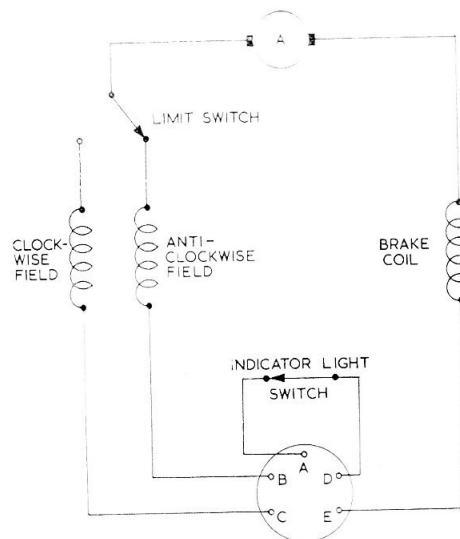

Fig. 2. Diagram of internal connections
(1) An adapter housing is fitted, having a visual indicator which displays the word OPEN or SHUT in a window, according to the position of the output shaft.
(2) The output shaft has a travel of 90 deg., and a tongue drive.
(3) There is a single warning light switch (*fig. 2*), which operates 8 to 10 deg. before end of travel.